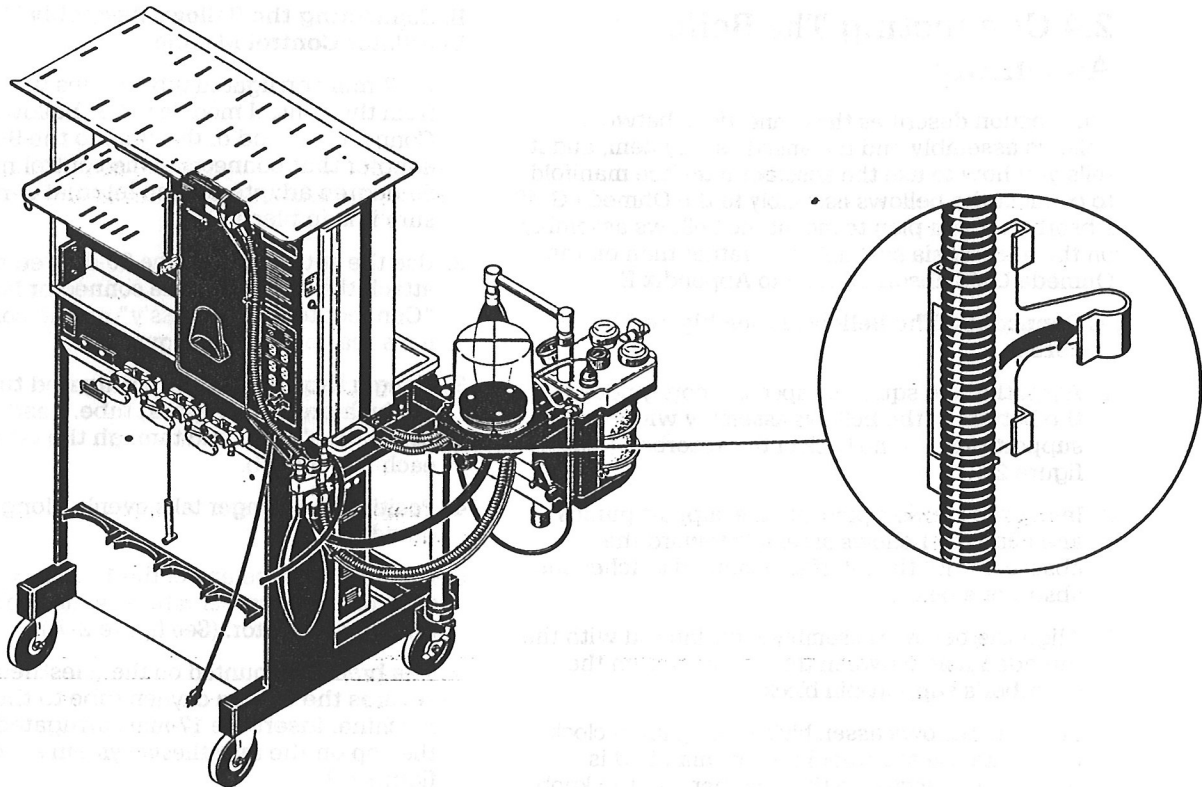

Figure 2-8
6. The bracket mounted on the anesthesia machine secures the 17-mm oxygen tube to the side of the machine. Insert the 17-mm corrugated tube into the clip on the anesthesia system's side. (See figure 2-8.)